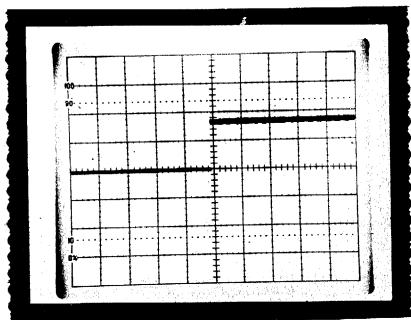

FIGURE 3
5. Press write 1 to on (light should be on). While depressing write 2, observe Jack 8 and adjust P2 for 250 usec output. Reference Figure 3. Release write 2.